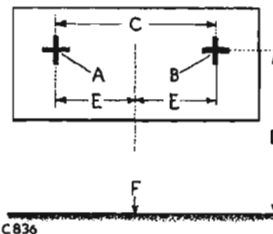

Fig. 47A. Headlamp setting board dimensions.
1. Mark on the board the dimensions given in Fig. 47A and position the vehicle, unladen, on level ground.